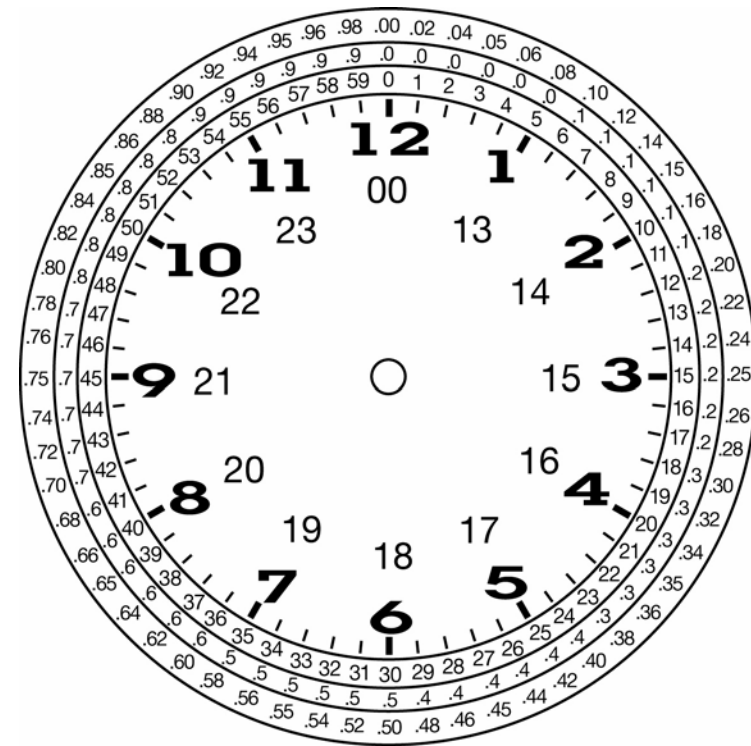

Figure 3
If your model prints Hundredths or 00-23 hours, refer to the **Dial of Decimal Equivalents in Figure 3** (page 6) to determine the correct setting.
The dial in Figure 3 shows the tenths and hundredths setting for each minute. The inner circle represents regular minutes, the middle circle represents tenths, and the outer circle represents hundredths of a minutes.
3. To synchronize the display with the type wheels, listen for the type wheels to click. At the click, press the minute button to advance to the next minute. Seconds are now synchronized. Always set the display to regular minutes. Refer to **Figure 3**, “dial of decimal equivalent” if wheels print in hundredths or tenths.